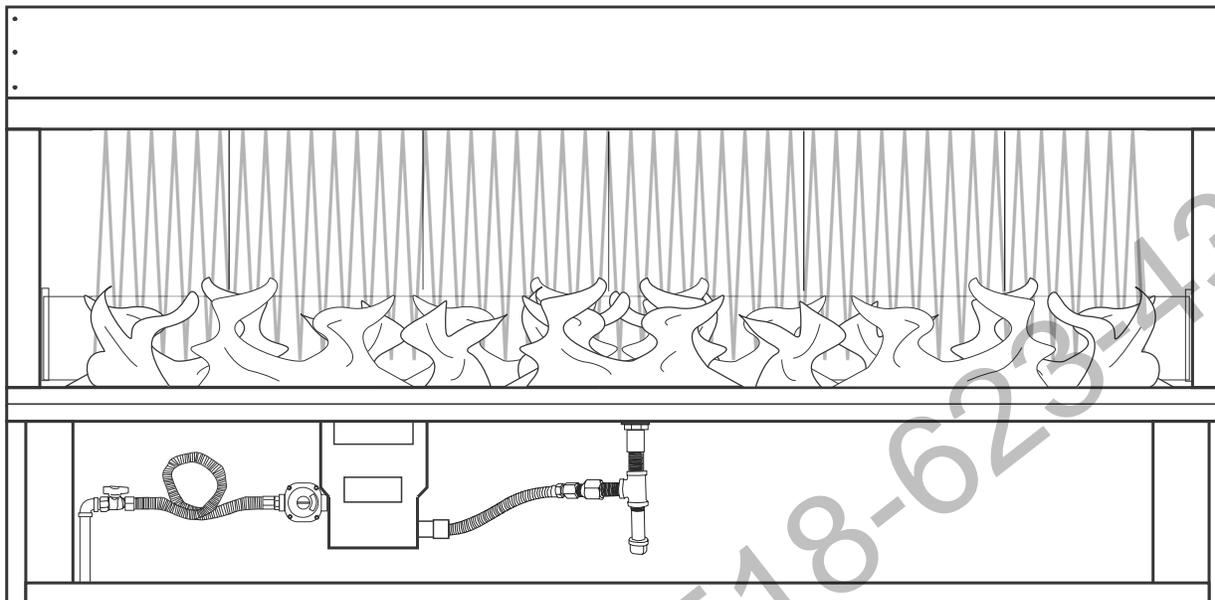

Figure 41 Proper flame height.
Proper flame height (Figure 41) should be at the top edge of glass windshield (peaking above at times) while on HI setting. Note: Glass windshield is 7-inches tall. The LO setting will be at least half of the height of HI or maybe lower. There can be a variance in flame height between Natural Gas and Liquid Propane (LP) Gas models.
Inspect Burner Flame and Pilot Flame Appearance Periodically do a visual check of the burner flame and the pilot flame. Ensure that the burner flame appearance resembles the flame shown in *Figure 41, Page 27*. Refer to *Figure 34 on Page 24* for more information about the pilot flame appearance. Contact a qualified service technician at once if any abnormal condition is observed.